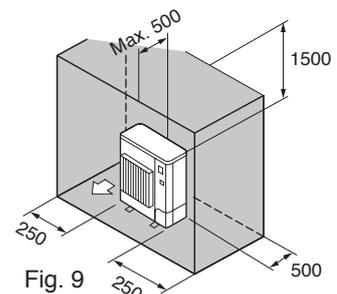

Fig. 9
- (6) Obstacles at rear, sides, and above only (Fig. 9)